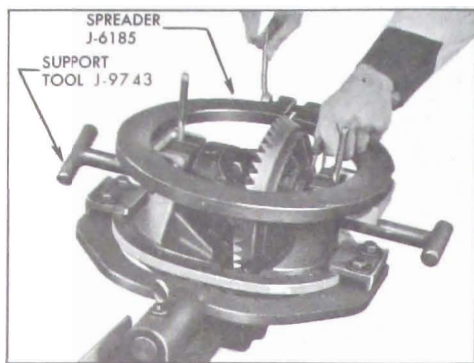

Fig. 6-79—Installing Differential Bearing Shims
**CAUTION:** Do not spread pedestals any farther apart than is absolutely necessary to push differential shim into position. If pedestals are sprung too far, they may take a permanent set. See Figure 6-79. Leave support tool in position until after shim is started to keep case assembly from dropping out of line.